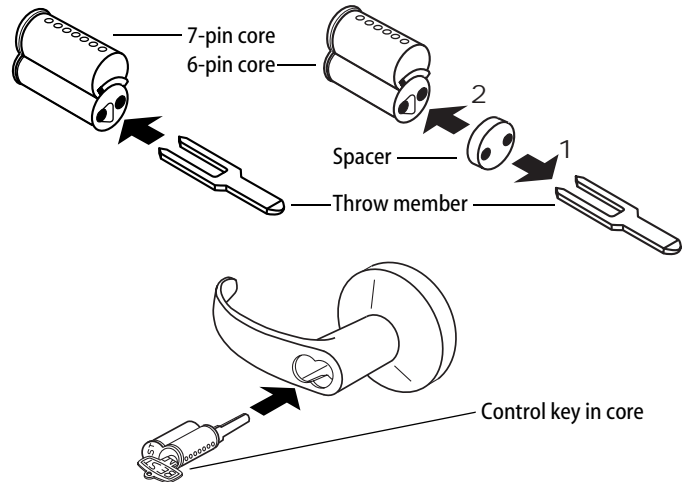

Figure 8 — Installing the core
**For 6-pin core users only:** Slide the spacer — supplied with your 6-pin cores — over the 7-pin throw member (see Figure 8, top right).
- Insert the throw member (or throw member and spacer) into the back of the core (see Figure 8, top).
- Put the control key into the core and turn the key 15 degrees clockwise.
- Put the core and throw member into the lever with the control key (see Figure 8, bottom).
- Turn the key 15 degrees counterclockwise and remove the key.